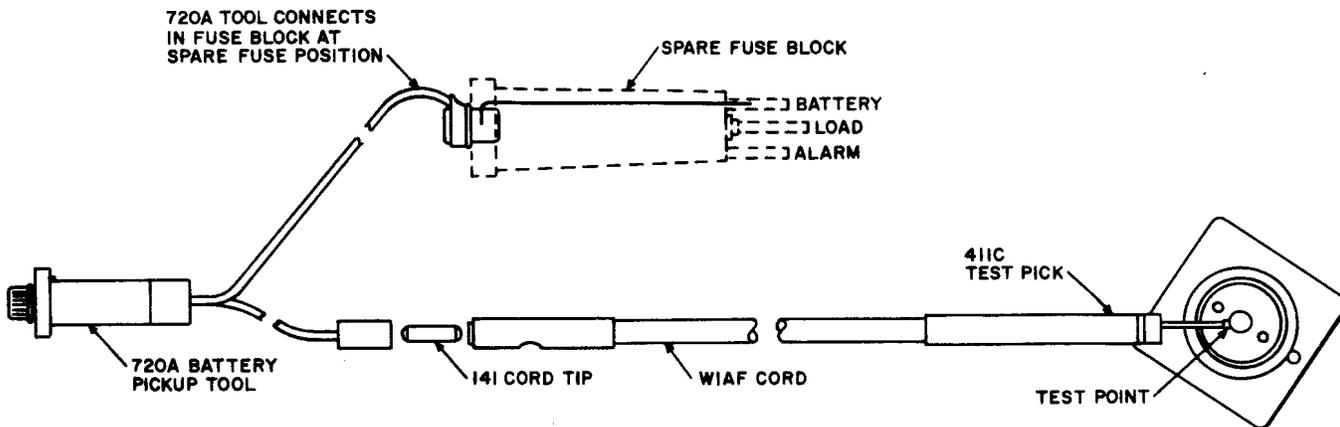

Fig. 3—Fuse Alarm Testing Cord—Tool Connection
- (1) Prepare an alarm test cord (Fig. 3) by connecting one end of a W1AF testing cord to a 141 cord tip and a 720A voltage pickup tool. (The KS-6278 connecting clip may be used to replace the 720A voltage pickup tool.) On the opposite end of the W1AF testing cord, connect a 411C test tool.